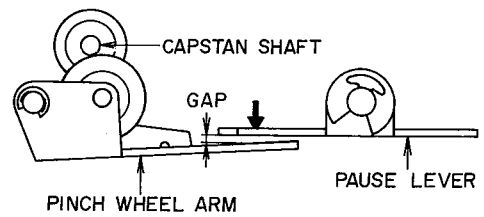

Fig. 3
2. PAUSE LEVER ADJUSTMENT (Refer to Fig. 3)
Bend the part of the pause lever indicated by the arrow mark in Fig. 3 so that when the machine is set to play mode, the gap between the pinch wheel arm and pause lever is more than 0.5mm.